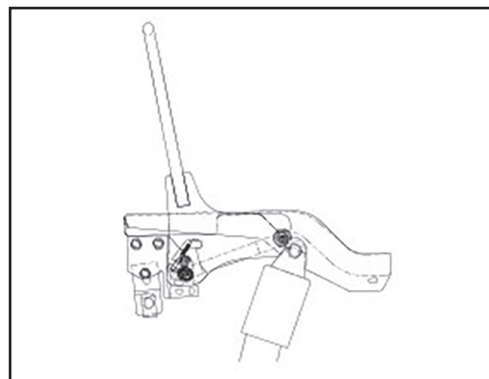
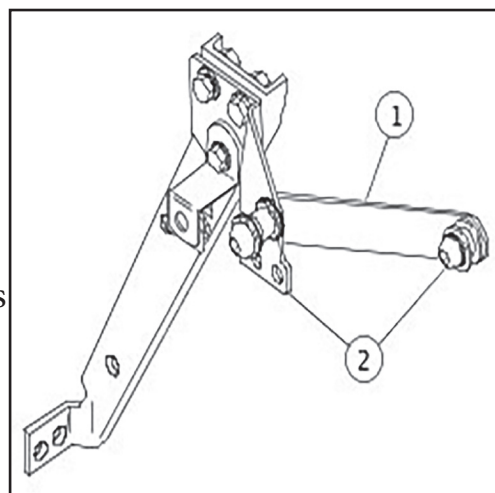

Figure 1. Detachable Sissy Bar Upright
Figure 2. Front Docking Point Kit and Bracket
1. See Figure 1 and Figure 2. Properly position the front and rear docking points. Install bracket **50-1662** (1) on each side as shown.